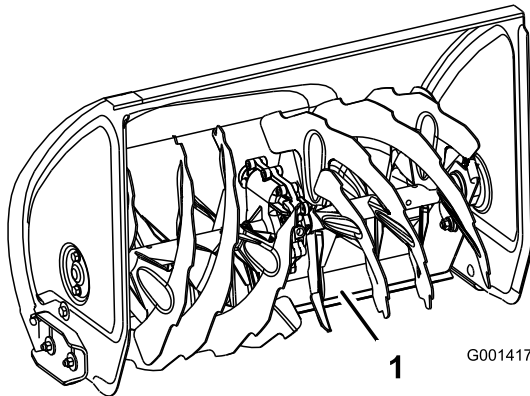

Figure 45
4. Push down on the handles to allow the pivoting scraper to move fully forward, then set the front of the machine down so that the front edge of the pivoting scraper contacts the ground (Figure 45).